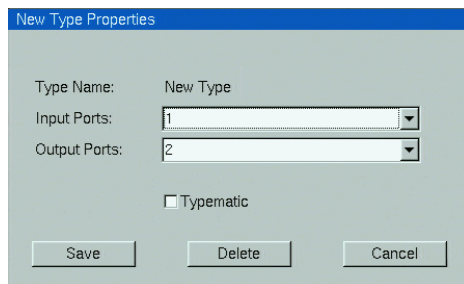

Figure 38 Properties box
1. Click **Edit Type**. The currently selected device Properties box opens. See Figure 38.